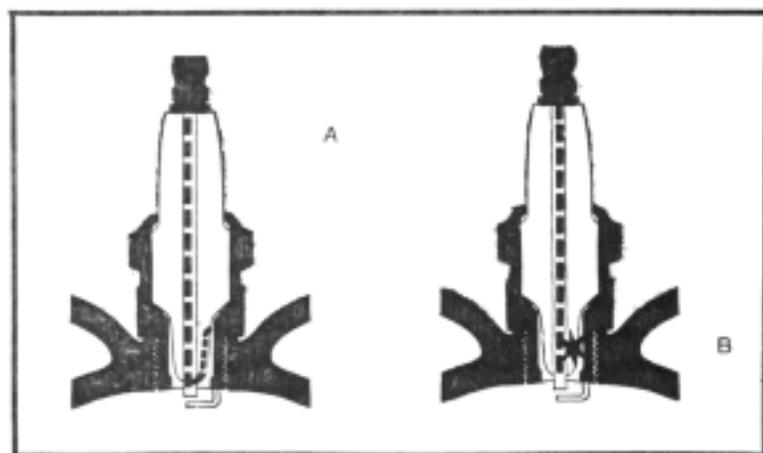

Fig. 5-12. Two maladies that can be corrected by cleaning: fouling (view A) and tracking (view B). (Courtesy Champion Spark Plug Co.)
**Cleaning.** The purpose of cleaning is to remove carbon deposits. These deposits can short out the spark, shunting it to ground before the plug fires, or build up in the gas volume area, forming a second spark gap deep inside the plug (Fig. 5-12). In either case, engine performance suffers.